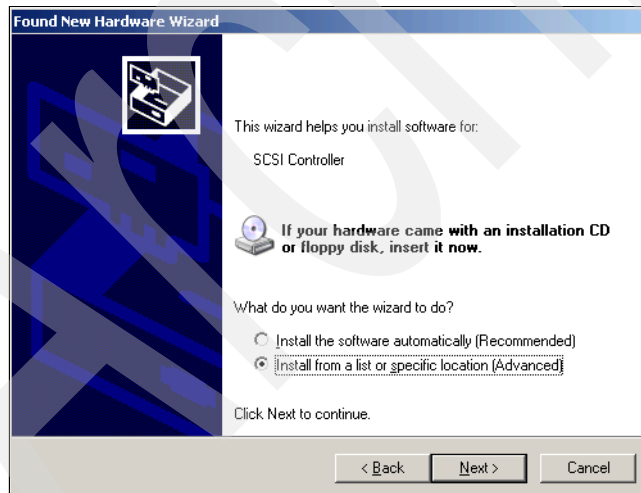

Figure 16-3 Install from specific location
2. We saved the downloaded HBA driver in the directory C:\x3755\SASHBAdrv\win2k3. We therefore select **Install from a list or specific location (Advanced)**, as shown in Figure 16-3.